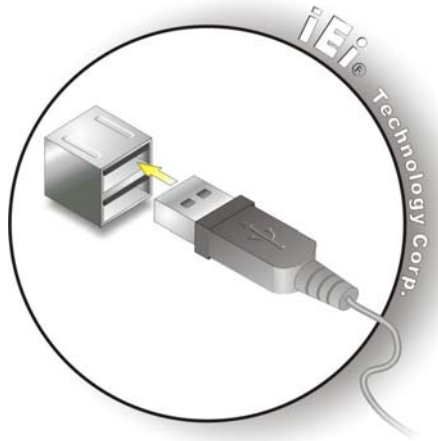

Figure 2-32: USB Device Connection
Step 2: Align the connectors. Align the USB device connector with one of the connectors on the bottom panel. See Figure 2-32.